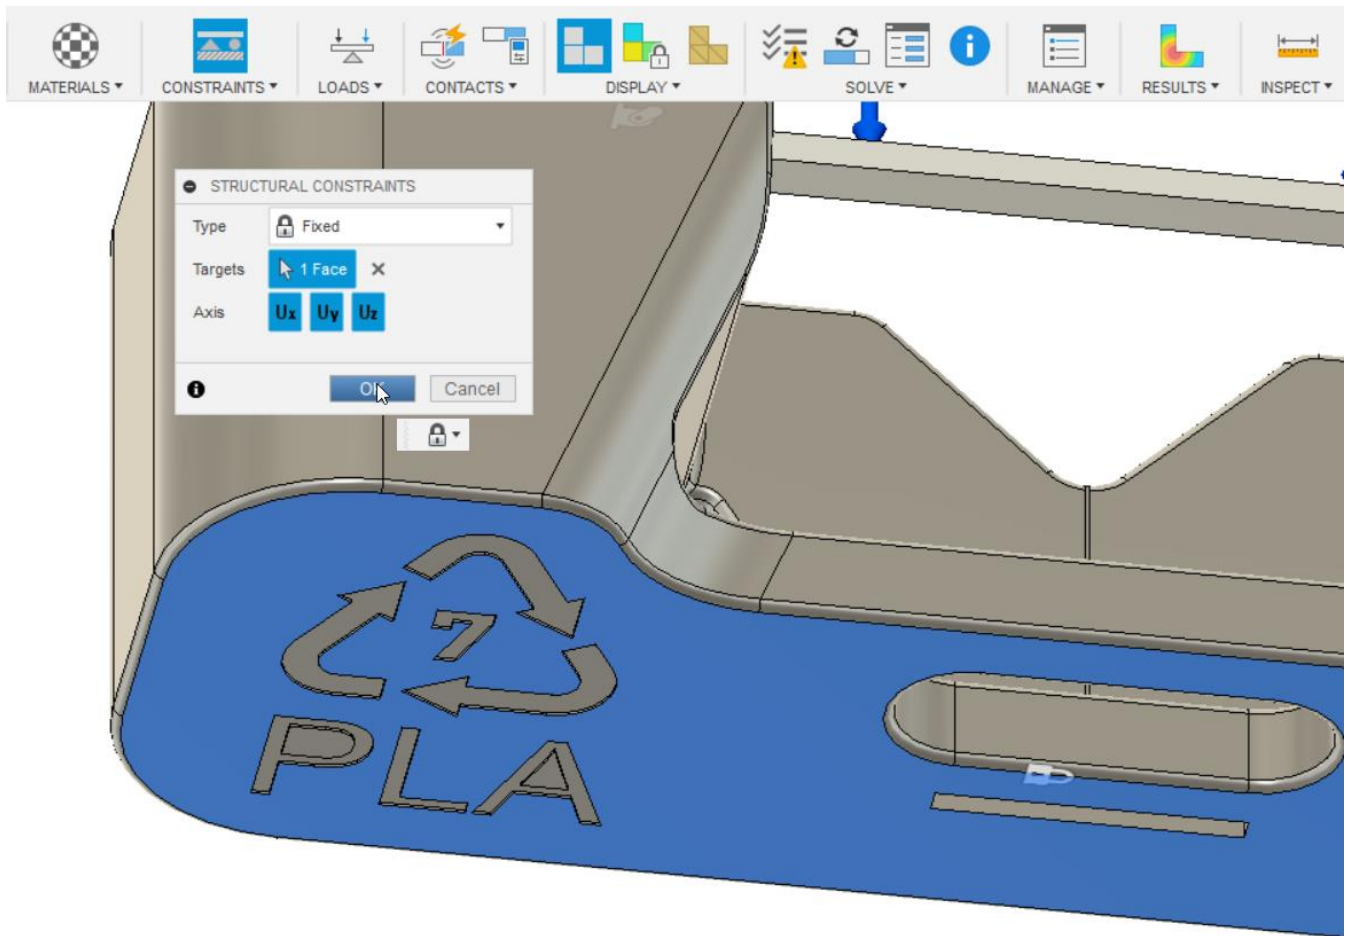

Figure 10: A fixed constraint is used to fix the bottom of the model and provide a point of reference.
- To set the degrees of freedom and algorithm parameters we now enter the constraints and contact sets. The first constraint is a fixed constraint on the base of the model to ground it (Figure 10):